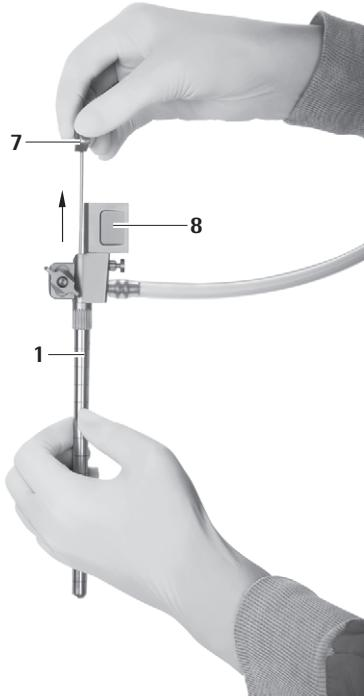

Fig. 9
- ▶ Remove the obturator for the oval working channel **7** carefully from the MINOP InVent trocar **1**, see Fig. 9.